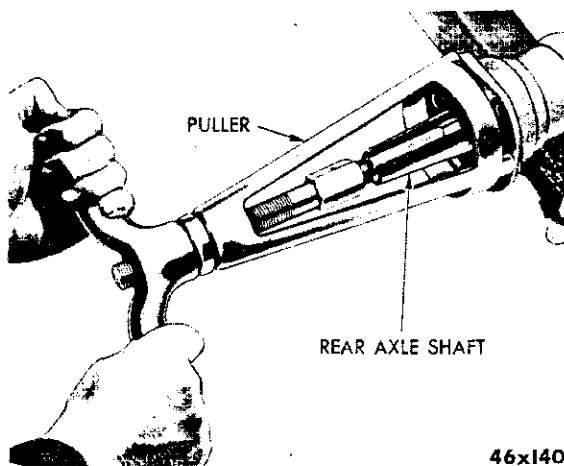

Fig. 3—Removing Axle Drive Shaft and Bearing
(1) Raise the car and remove the rear wheels, hub and drum assembly using puller Tool C-845 or Tool C-319. Do not strike the end of the axle shaft. Use of a knock off type puller may cause damage to bearings and thrust block.
(2) Block the brake pedal to prevent its being depressed and disconnect the brake lines at the wheel cylinders.
(3) Remove the axle drive shaft key and remove the brake support and dust shield using Tool C-745 to protect the outer seal.
(4) Carefully remove the shim pack from each end of the axle housing. Identify each shim pack as to location to aid in reassembly.
(5) Remove the axle shaft and bearing assembly with Tool C-499 (Fig. 3). If necessary, the bearings may be removed from the axle shafts with bearing puller Tool C-293 and number 13 adaptors (Fig. 4).